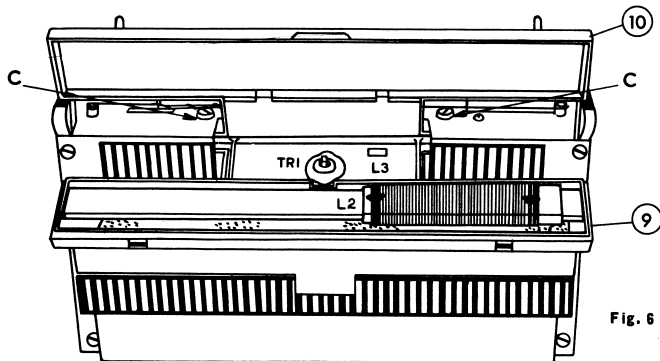

Fig. 6
- 4) Stand set in normal operating position and open Ferritenna as shown in FIG. 6. A small cardboard box or similar non-metallic object may be required to support the Ferritenna assembly during alignment.